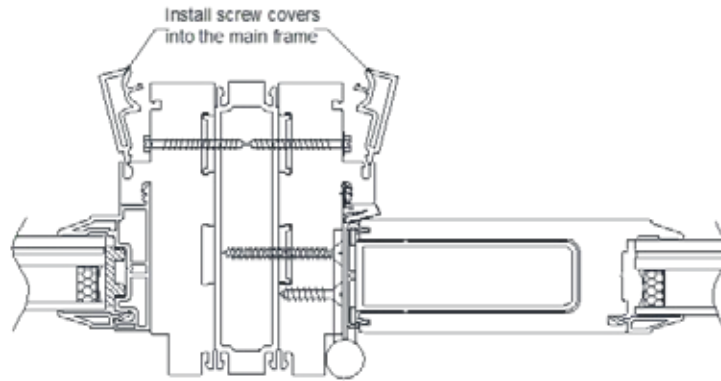

Figure 15
1. **Locate** and install screw covers (Item 13) by snapping the cover into the groove in the door frame (Figure 15). Then use a rubber mallet to strike the cover at an angle to secure the cover.